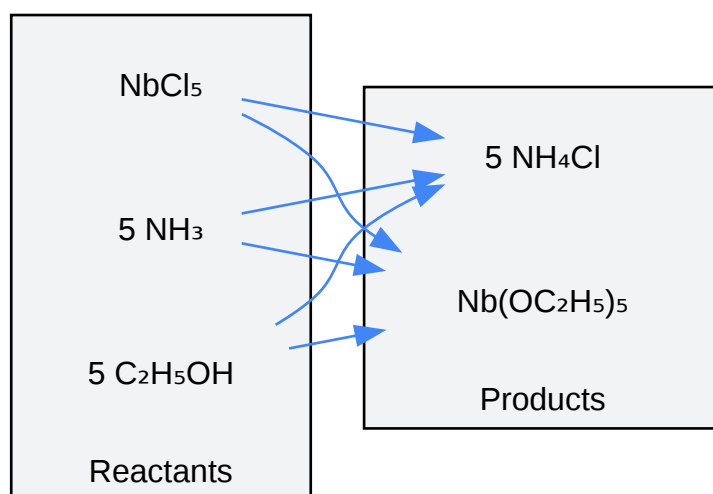

Figure 1: Chemical Reaction for the Synthesis of Niobium(V) Ethoxide
Caption: Figure 1: Chemical Reaction for the Synthesis of **Niobium(V) Ethoxide**